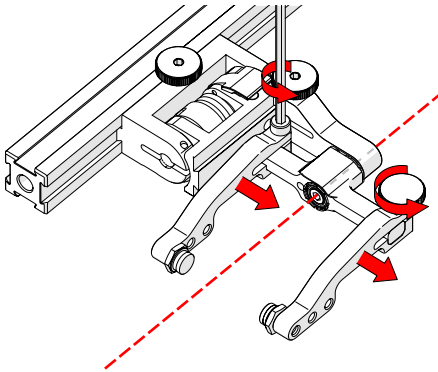

Fig. 46 - Adjust probe holder arms
5. Loosen the probe holder arm adjustment knob (Fig. 46) and remove the outer probe holder arm from the yoke.
6. Adjust the inner probe holder arm as required to best centre the probe on the yoke's pivot axis (Fig. 46).
**TIP:** The probe holder yoke can accommodate many different probe and wedge sizes of varying widths. It is best to centre the wedge with the yoke's pivot axis to reduce wedge tipping when scanning. Position the inner probe holder arm accordingly with the centre of the yoke (Fig. 46).